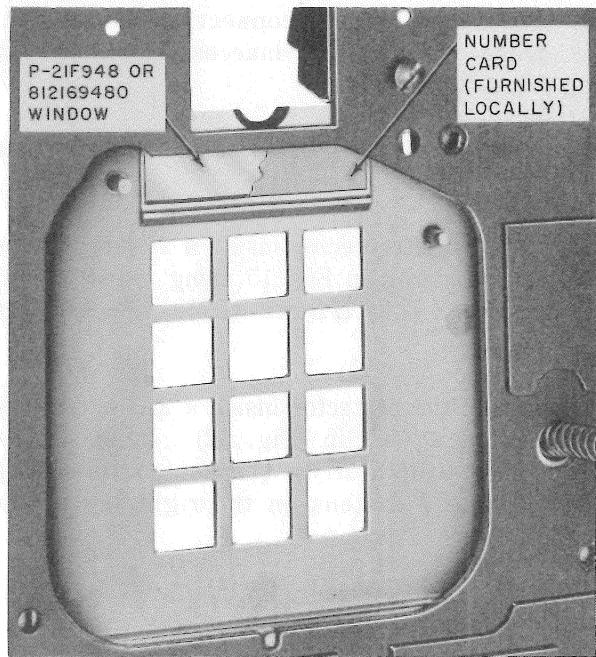

Fig. 29—Window and Number Card Installed in Faceplate (TOUCH-TONE Set)
- (1) Remove dial housing.
- (2) Insert P-21F948 window in faceplate from rear (Fig. 29).
- (3) Insert number card in window (Fig. 29).